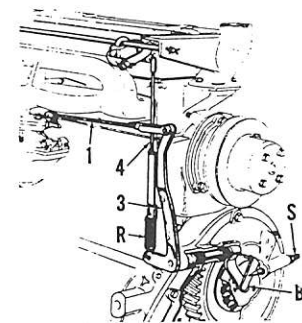

Fig. 169—Schematic view of governor and associated parts used on Model MF135 with Continental engine.
Reconnect governor rod and carburetor link. On Models MF135 and MF150 with Continental engine, loosen the locknut and back out bumper screw (S—Fig. 169) three or four turns to be sure it is free from spring (B).
If governor surges after adjustment on MF135 and MF150 with Continental engine, turn bumper screw (S—Fig. 169) in slightly and retest. Do not turn screw farther than is necessary to eliminate objectional surge. On other models recheck carburetor link for proper length. Shorten or lengthen a slight amount from that specified to eliminate surge. Make sure throttle will fully open when adjustment is completed.